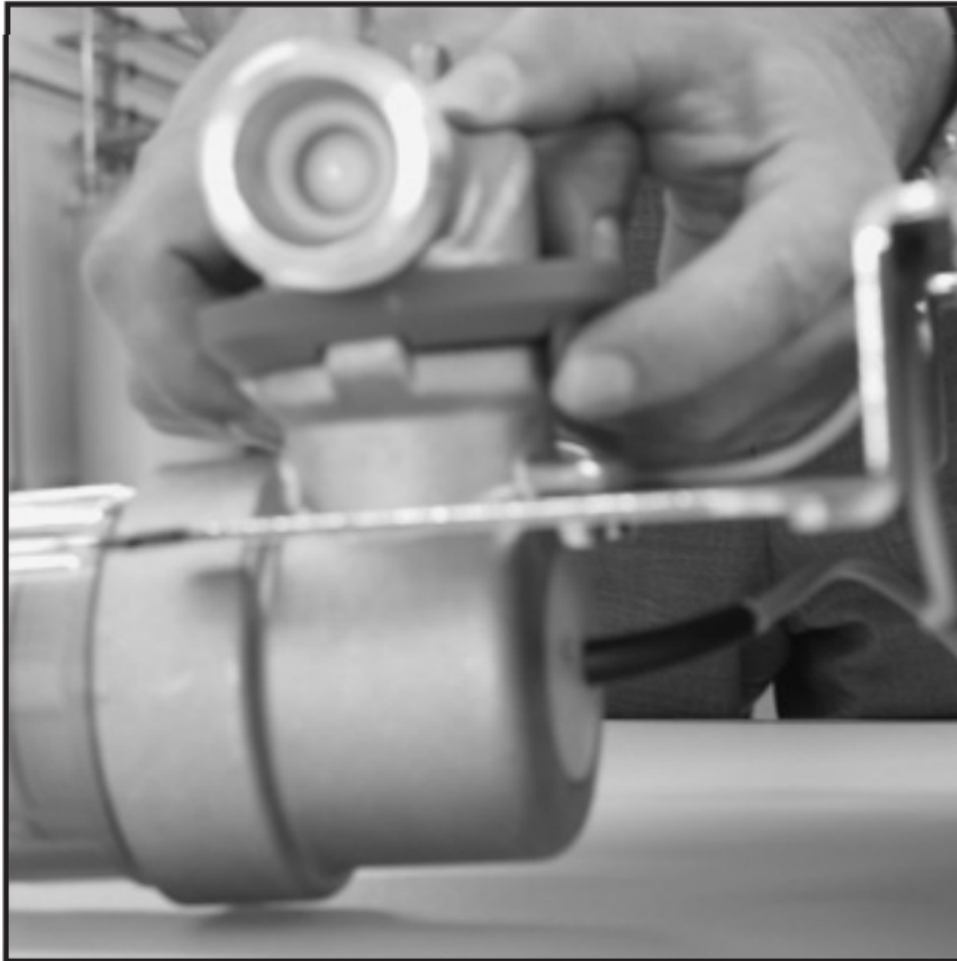

Fig. 5
- **d.** To release the connector, press the circlip on both flaps together and pull it in the direction of the connection (see Fig. 5).